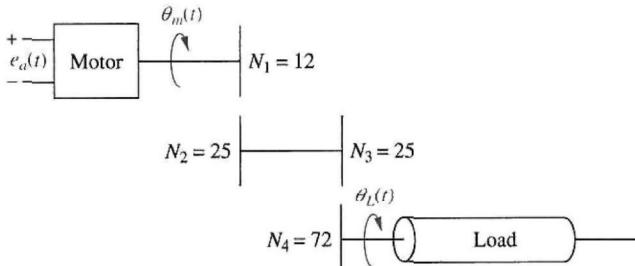

FIGURE P2.30
44. A dc motor develops 55 N-m of torque at a speed of 600 rad/s when 12 volts are applied. It stalls out at this voltage with 100 N-m of torque. If the inertia and damping of the armature are 7 kg-m² and 3 N-m-s/rad, respectively, find the transfer function, $G(s) = \theta_L(s)/E_a(s)$, of this motor if it drives an inertia load of 105 kg-m² through a gear train, as shown in Figure P2.30. [Section: 2.8]